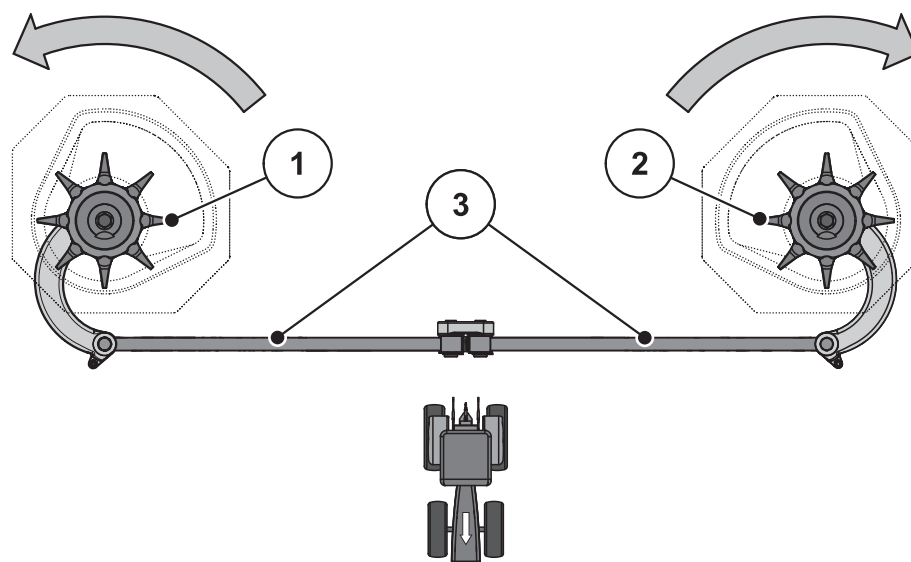

Figure 10.13: Checking the agitator drive
2. Manually turn the agitator head **into the rotational direction of the spreading disc**. See figure 10.13.
3. Turn the agitator head manually or with the help of an oil filter belt forcefully **against the rotational direction of the spreading disc**. See figure 10.13.